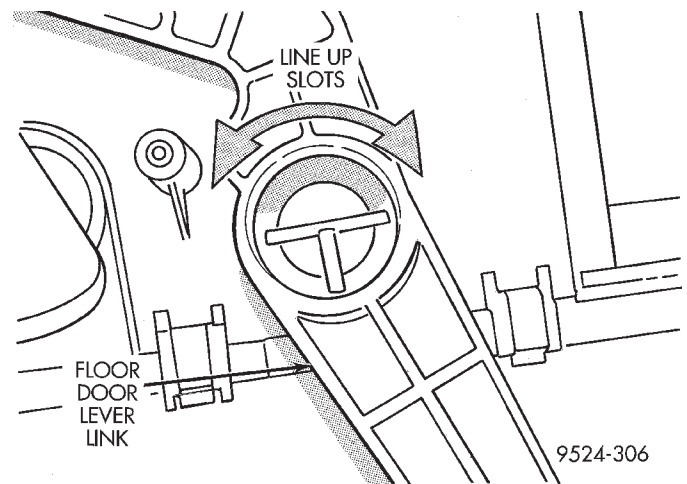
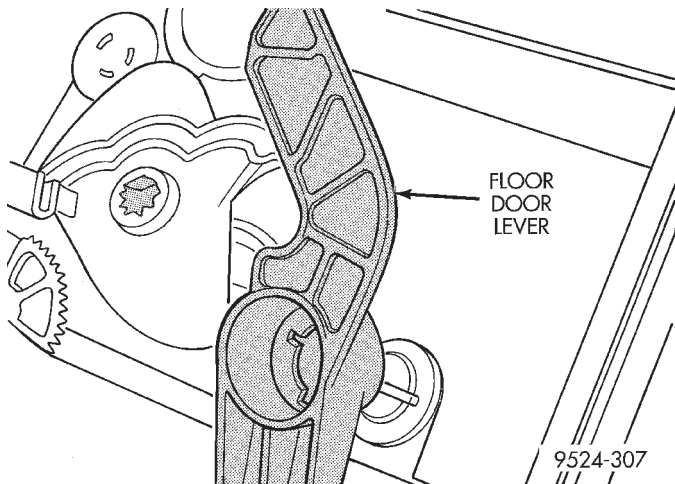

Fig. 99 Align Slots
Fig. 100 Remove Lever Link
(29) Turn floor door lever link until it aligns with slots cut into it (Fig. 99). Remove floor door lever link (Fig. 100).